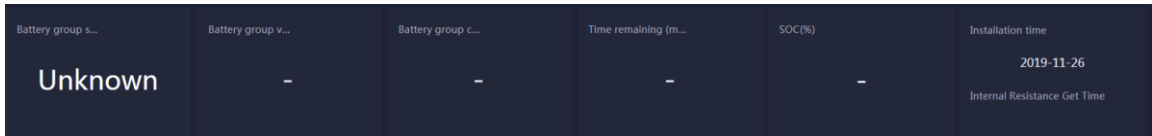

Figure3-23 Battery group info
- Battery group info: it shows the current communication status and battery group's status, battery group's voltage, current, time remaining, SOC, installation time, as shown in Figure3-23.